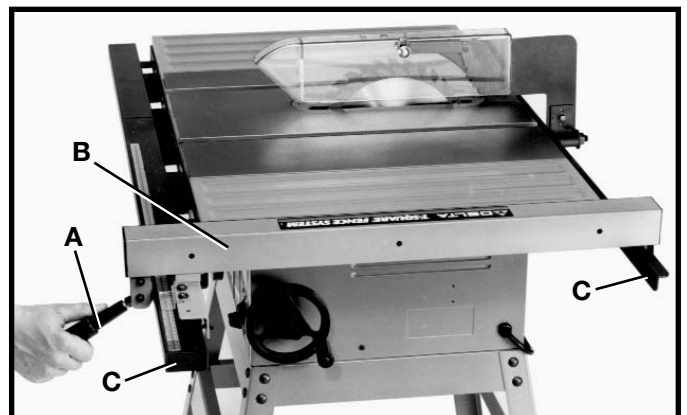

Fig. 40
3. Lock the rip fence (B) Fig. 40, on the guide rails (C) by pushing down on lock handle (A).